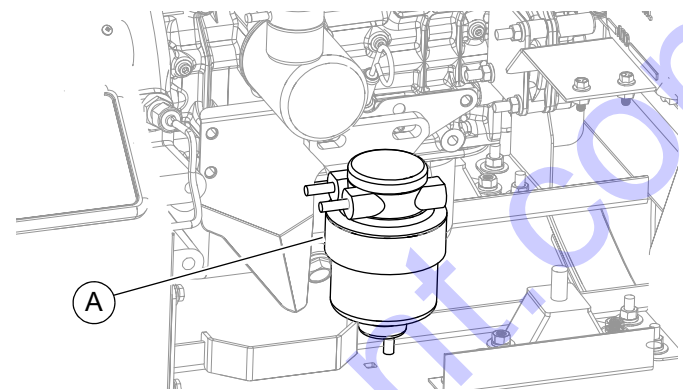

Figure 2-7. Heated Fuel Filter
See Figure 2-7. An optional heated fuel filter (A) prevents diesel fuel from gelling in extremely cold temperatures. Heating cycles are automatically controlled by the Power Zone–DLA.